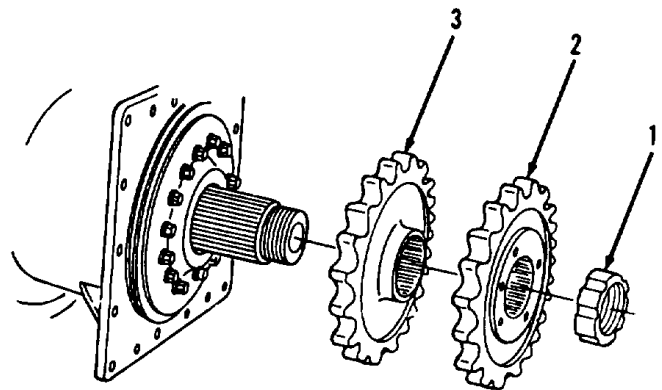

Figure 5-123.
1. Install two drive sprockets (3 and 2, Figure 5-123) on drive shaft of vehicle. Install inner sprocket with hub away from final drives. Install outer sprocket with hub toward hub of inner sprocket.